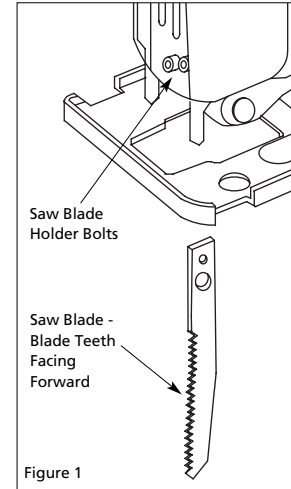

Figure 1
1. Loosen the two bolts counterclockwise on the blade holder with the allen wrench (see Figure 1).
2. With the blade teeth facing forward, insert the blade into the blade holder as far as it will go. Make sure that the back edge of the blade fits into the blade support bearing (see Figure 1).